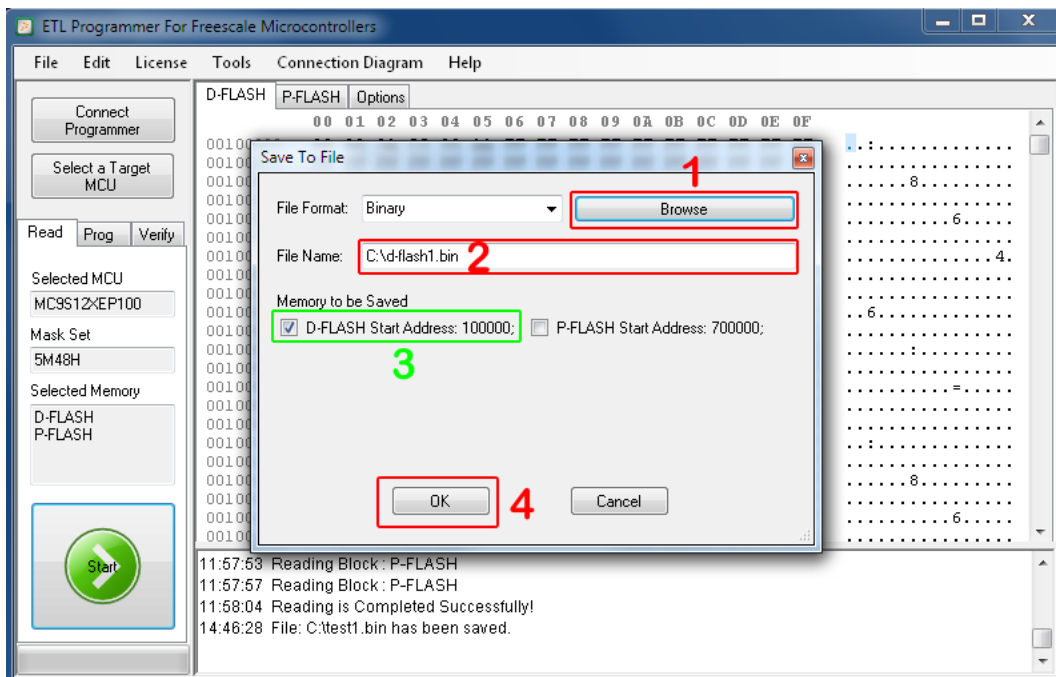

Figure 26 Select D-FLASH only and save to file
- Generally, “Program-FLASH” does not need any modification. Next picture shows how to store Data-FLASH only. Repeat previous steps except the selection of the P-FLASH check box (Figure 26).